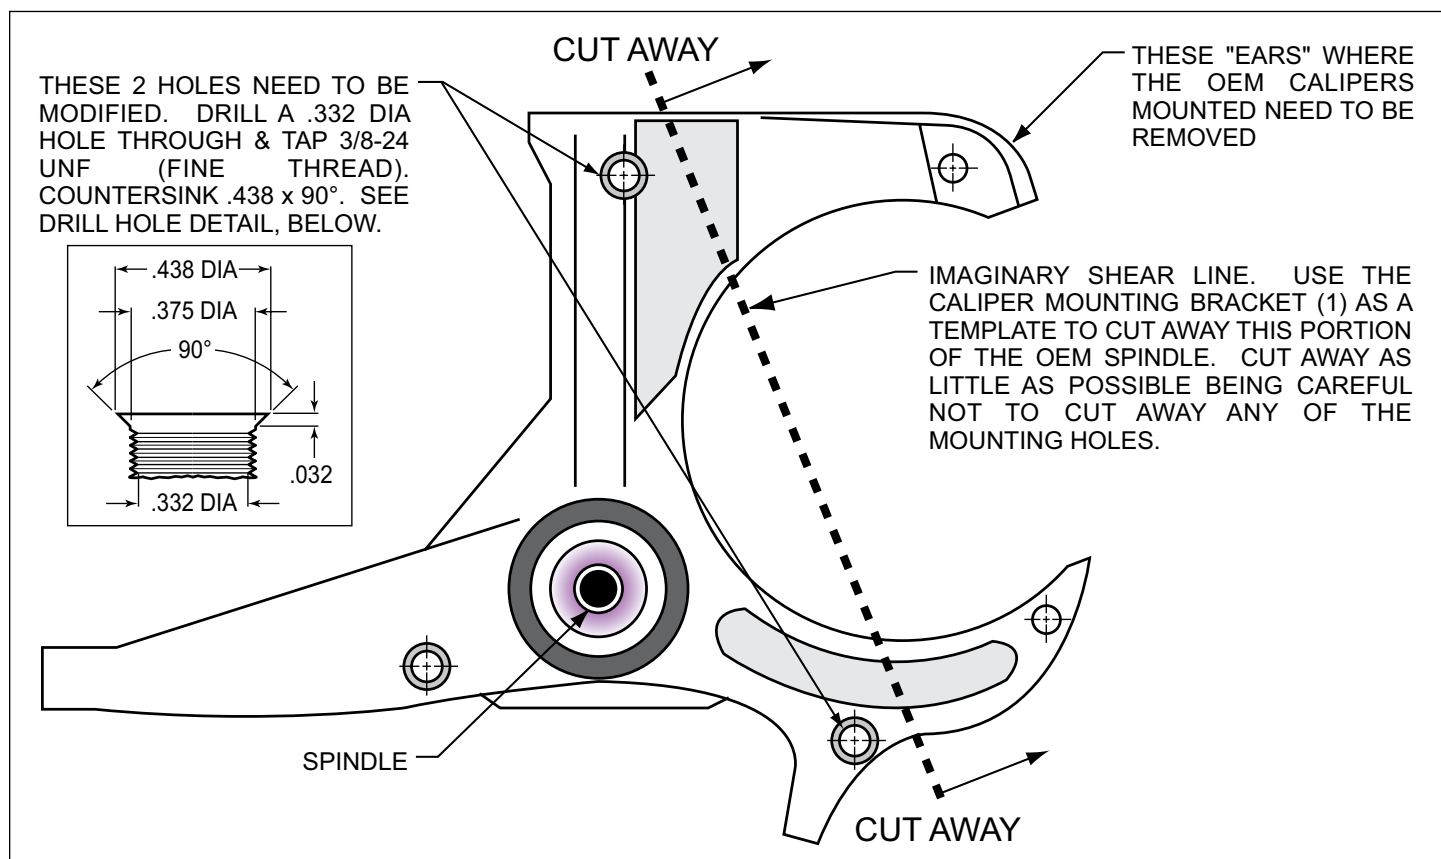

Figure 1. Steering Arm / Spindle Modifications
These modifications should be performed by a qualified machinist. Refer to Figure 1 as necessary (numbers in parenthesis refer to the parts list). Only one view of the steering arm/spindle is shown, but the modifications need to be performed on both steering arm/spindles.
NOTE: Numbers in parenthesis refer to the parts list and Figure 1 on the preceding pages.
- Apply red *Loctite*® 271 to bolt threads (2) before assembly of the caliper bracket (1) to backing plate face of spindle. Position the caliper mounting bracket (1) onto the spindle while positioning spacers (3) between bracket and spindle face. Slip the mounting bolts (2) into the threaded spindle holes, finger tighten. Torque two bolts (2) to 30 ft-lb. **NOTE:** Be sure the heads of the caliper bracket (1) insert nuts are facing outward toward the wheel.
- Install five new wheel studs (4) into the hub (5). Torque to 77 ft-lb. **NOTE:** There are two five lug patterns in the hub (5 x 4.50 and 5 x 4.75). Make sure of the correct hole pattern for the correct wheel application before installing studs into hub.
- Pack the large inner bearing cone (6) with high temperature disc brake bearing grease (available from your local auto parts store) and install into the backside of the hub (5).
- Install the grease seal (7) by pressing into the backside of the hub (5).
- Orient the rotor (9) and the rotor adapter (8) as shown in Figure 1. Attach the rotor to the adapter using bolts (10). Apply red *Loctite*® 271 to the bolt threads and torque to 25 ft-lb using a criss-cross pattern.
- Mount the adapter/rotor assembly (8/9) to the hub (5) using bolts (11), as shown in Figure 1. Apply red *Loctite*® 271 to the bolt threads and torque to 45 ft-lb using a criss-cross pattern.
- Pack the small outer bearing cone (12) with high temperature disc brake bearing grease and install into front of hub (5). Slide the hub/rotor assembly (5 and 9) with outer bearing cone (12) onto the spindle. Secure using supplied washer (13), original adjusting nut and nut locking device.
- Install the dust cap (15) onto the hub (5). Friction created by the o-ring (14) on the dust cap (15) keeps it from unscrewing. The O.D. of the existing spindle washer may be larger than the I.D. of the dust cap (15) not allowing it to seat against the hub face. Therefore, use the spindle washer (13) supplied with the kit instead of the stock washer.
- **NOTE:** Please reference the caution statement at the beginning of the assembly instructions. This kit contains distinct right and left hand calipers that must be mounted in a specific direction, as described below. Mount the caliper (16) onto the caliper bracket (1) using bolts (18) and washers (17), as shown in Figure 1. Initially place two .032" thick shims (19) on each bolt between
- Remove the two pad retaining pins from the caliper (16) by carefully popping out the pin retaining clips and sliding out the pins. Insert the brake pads (20) into the caliper from the bottom, Figure 1, with the friction material facing the rotor. Secure the brake pads in place with the pad retaining pins and clips. Reinstall the caliper onto the caliper mounting bracket. Apply red *Loctite*® 271 to bolt threads (18), and torque to 40 ft-lb.